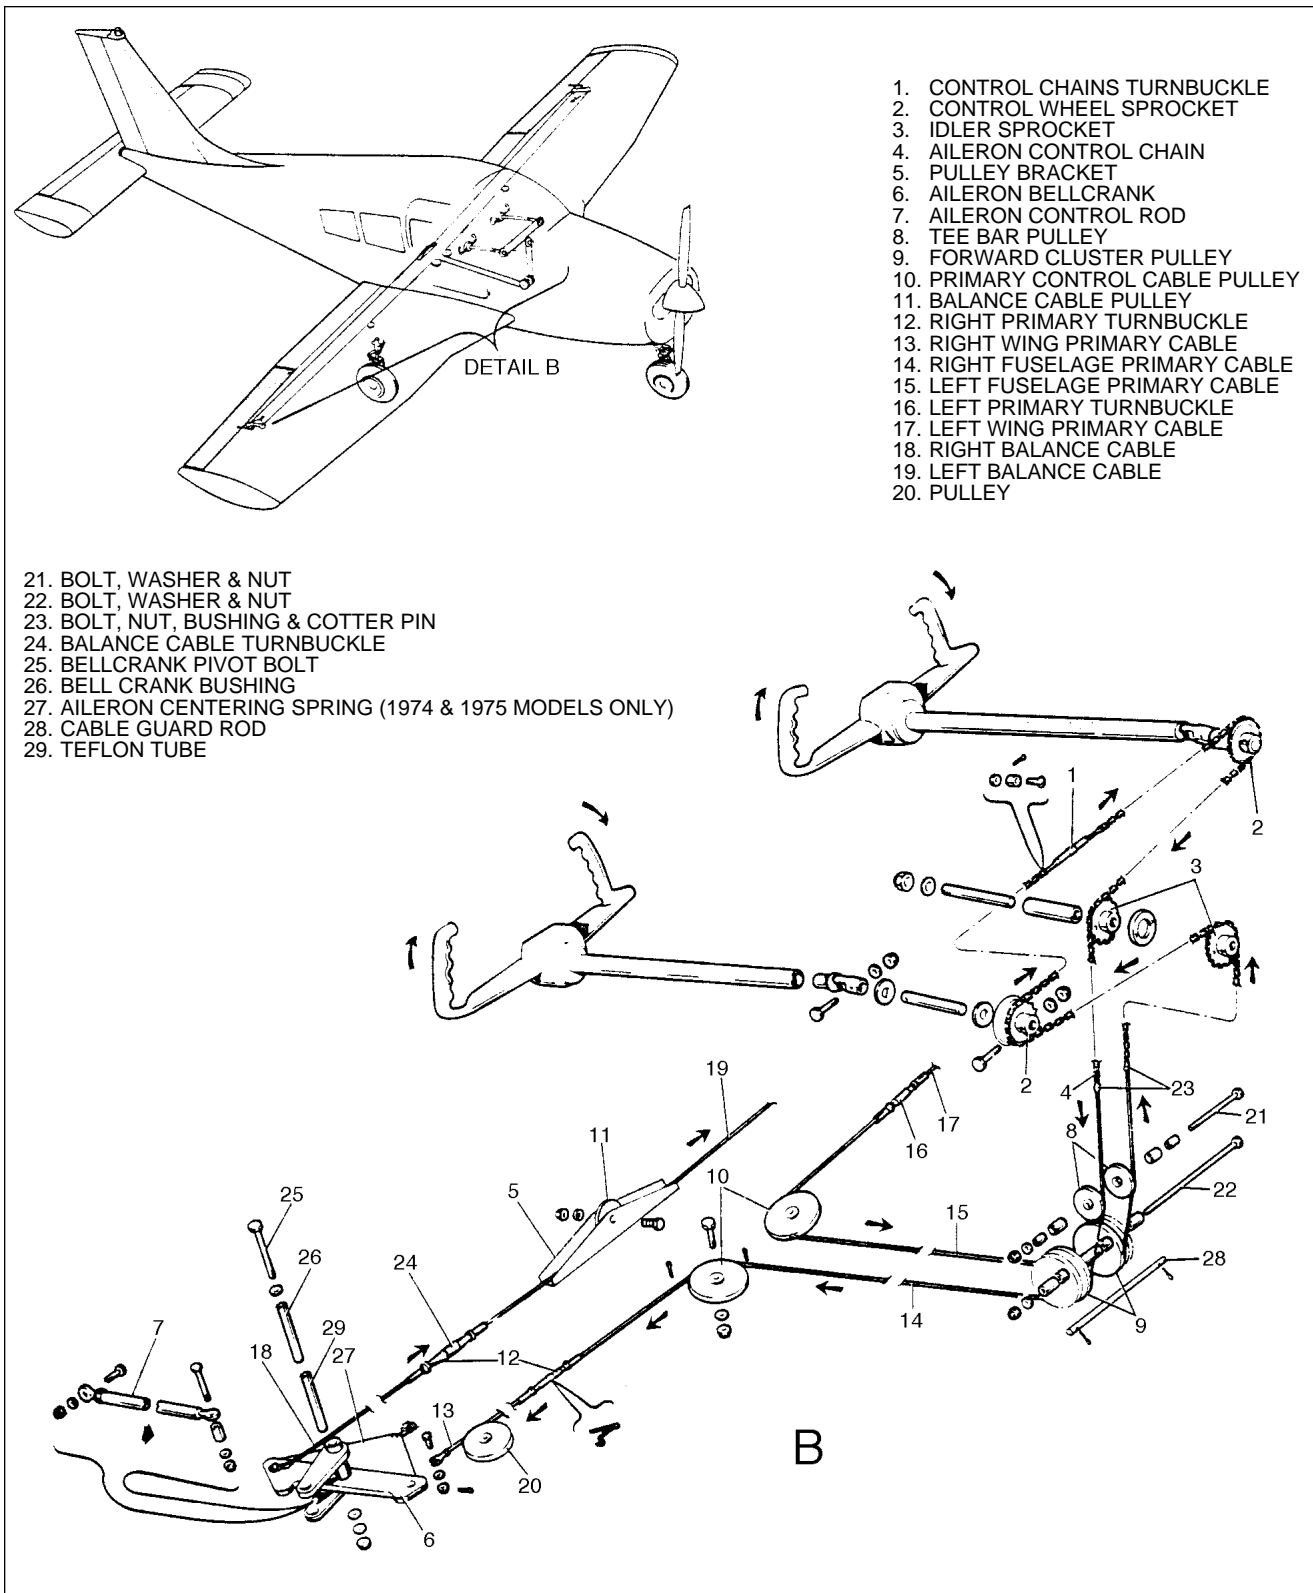
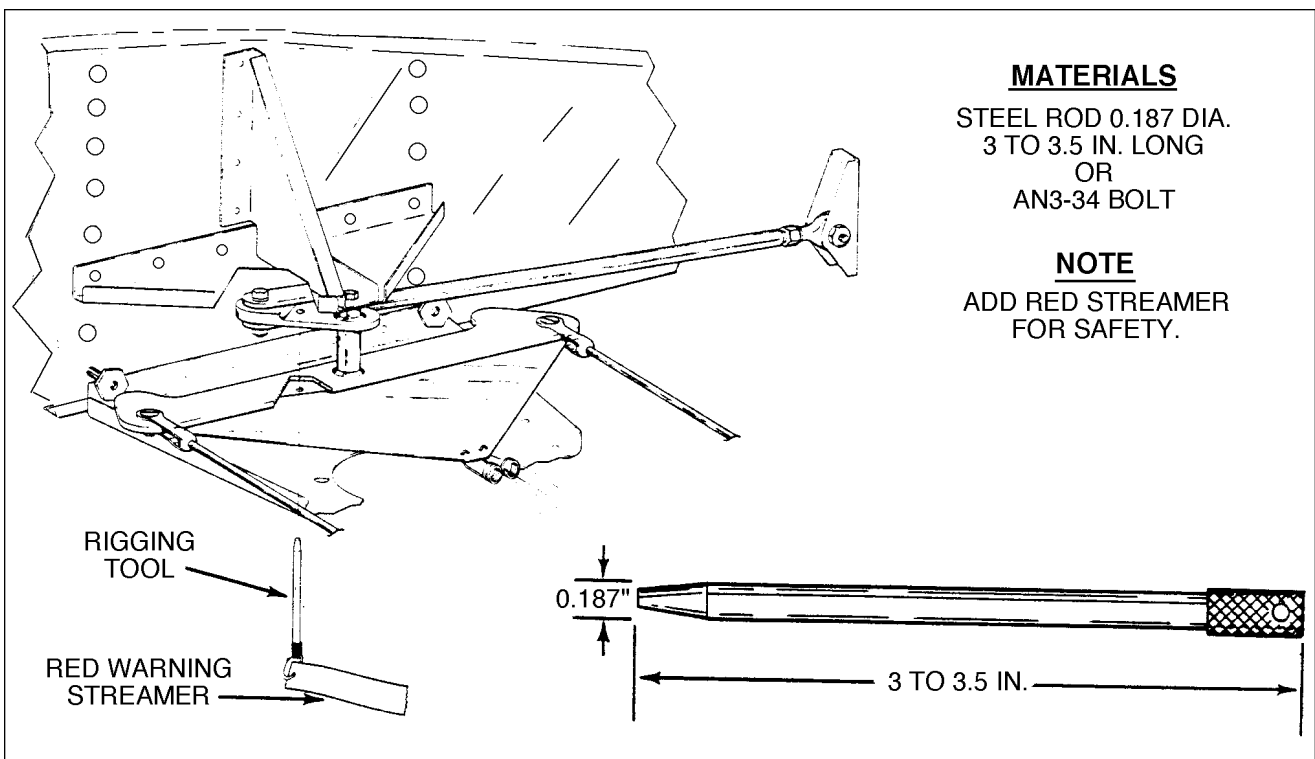
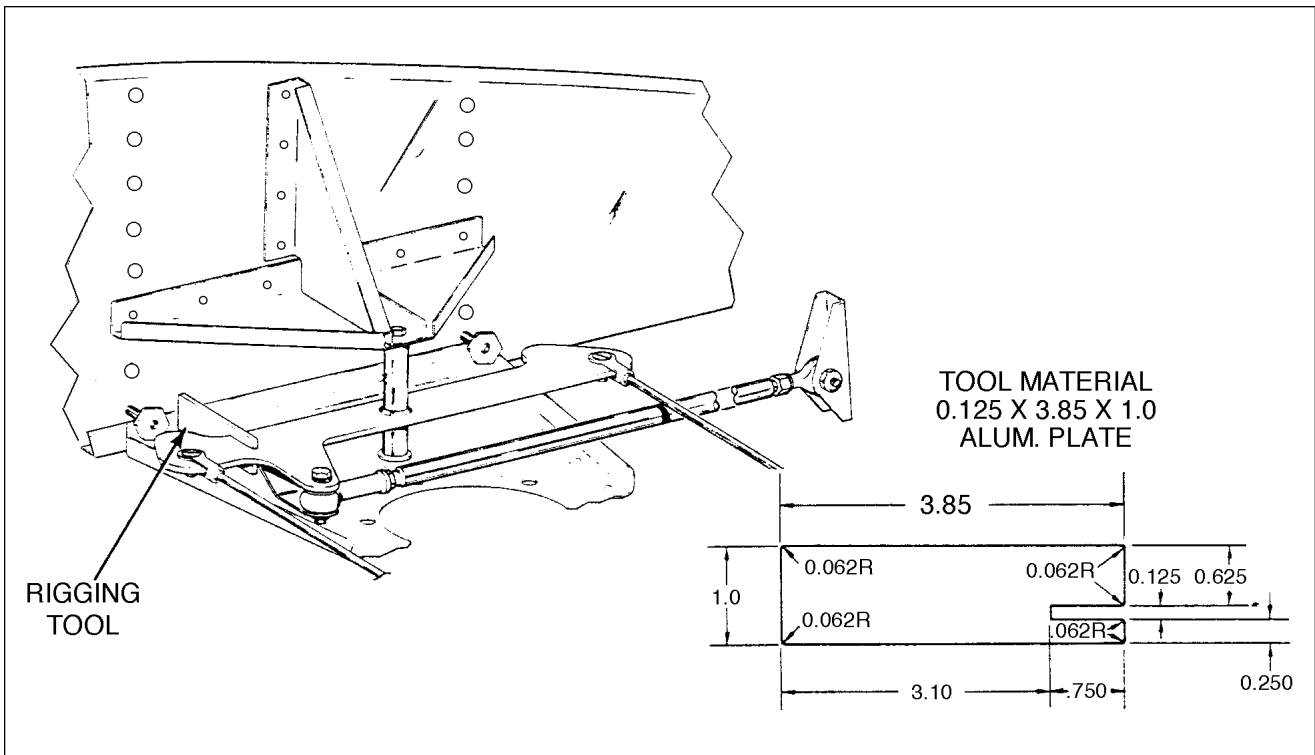

Figure 5-8. Aileron Controls
Figure 5-9. Bellcrank Rigging Tool (1974 and 1975 Models Only)
Figure 5-10. Bellcrank Rigging Tool (1976 and Subsequent Models)
- 5-11. REMOVAL OF AILERON CONTROL CABLES. (Refer to Figure 5-8.)
5-12. INSTALLATION OF AILERON CONTROL CABLES. (Refer to Figure 5-8.)
2. Connect the cable, along with the aileron centering plate, to the aft end of the aileron bellcrank (6) using a bolt, washer, nut and cotter pin. Allow the cable end to rotate freely on the bellcrank.
3. Connect the balance cable ends at the turnbuckle (24) that is located under the rear seat aft of the main spar.
4. If the left cable was removed, install the cotter pin cable guard at the pulley (10) located within the fuselage, aft of the main spar.
- 51-13. REMOVAL OF AILERON BELLCRANK ASSEMBLY. (Refer to Figure 5-8.)
- b. Remove the access plate to the aileron bellcrank (6) located on the underside of the wing, forward of the center aileron hinge.
- c. Relieve tension from the aileron control cables by loosening the balance cable turnbuckle (24) located in the opening aft of the main spar.
- f. Disconnect the aileron control rod (7) at the aft or forward end, as desired, by removing the cotter pin, nut, washer and bolt.
- g. Remove the nut, pivot bolt (25) and washers that secure the bellcrank. The nut is visible from the underside of the wing.
- 5-14. INSTALLATION OF AILERON BELLCRANK ASSEMBLY. (Refer to Figure 5-8.)
- a. Install the bellcrank pivot bushing (26) with teflon tube (29) in torque tube portion of the bellcrank (6).
- c. Install the bellcrank pivot bolt (25) with the head up. Install a washer and nut on the bolt, and torque nut within 20 to 25 inch-pounds. Check that the bellcrank rotates freely with little up-down play.
- d. Install and adjust control rod (7) and check aileron travel per Table V-II.
- f. Tighten the control cables at the balance cable turnbuckle (24) in the floor opening aft of the main spar. Check cable tension per Table V-II.
- 5-15. RIGGING AND ADJUSTMENT OF AILERON CONTROLS. (Refer to Figure 5-9 or Figure 5-10.)
- 2. On 1974 and 1975 models install a bellcrank rigging pin, as shown in Figure 5-9, through the arm of each bellcrank and the support bracket. (This tool may be fabricated from dimension given in Figure 5-3.)
- 3. On 1976 and subsequent models affix a bellcrank rigging tool, as shown in Figure 5-10, between the forward arm of each bellcrank and the adjacent rib. (This tool may be fabricated from dimensions given in Figure 5-10.) The slotted end of the tool fits on the arm forward of and adjacent to the primary control cable end. The other end of the tool is positioned so that the side of the tool contacts the aft side of the bellcrank stop. The bellcrank must be moved to allow a snug fit of the tool between the bellcrank arm and rib. To do so, it may be necessary to loosen a primary control cable or the balance cable. The neutral position may also be found by locating the position at which the forward and aft cable connection holes are an equal distance from the adjacent outboard wing rib.